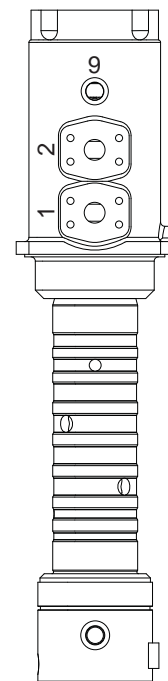

Figure 23
2. Fix the position of the spindle and press the hub carefully into spindle with both being parallel each other. (Figure 23)